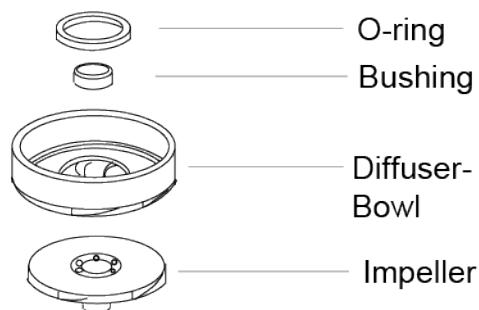

Figure 2.
- C) For 4" pumps, loosen the shaft screw and its washer, as these secure the hydraulic body. Then, proceed to remove the impeller-bowl assembly. See Figure 2.